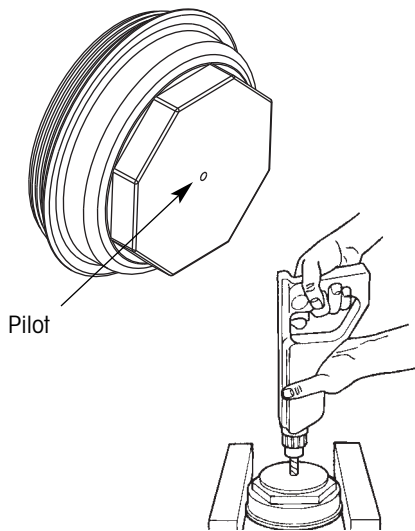

Figure 20. Preparing for hubodometer installation
2. Using the pilot in the center of the hubcap (figure 20), drill a $\frac{9}{16}$ -in. hole through the hubcap. Remove all drilling residue from the hubcap.